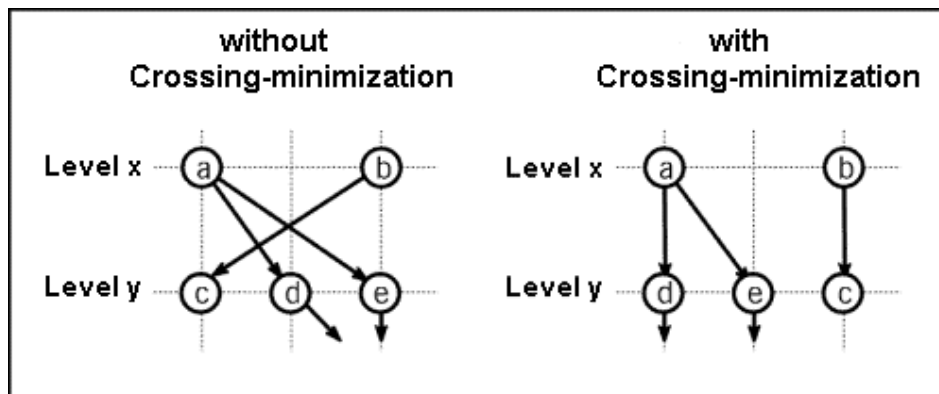

Figure 135: Schematic representation - Crossing-minimisation
- **Crossing-minimisation:** the objects assigned to layers can be moved within the appropriate layer in order to minimize the number of crossings of relations (see fig. 135).